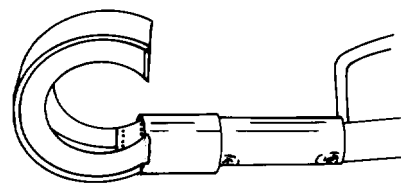

Figure 22. TG-24 Reflector
e. TG-24. Used for heating solder termination sleeves and shrinking large-diameter tubing and boots. Used for boots up to 3 inches in diameter and has to be ordered separately (Figure 22).